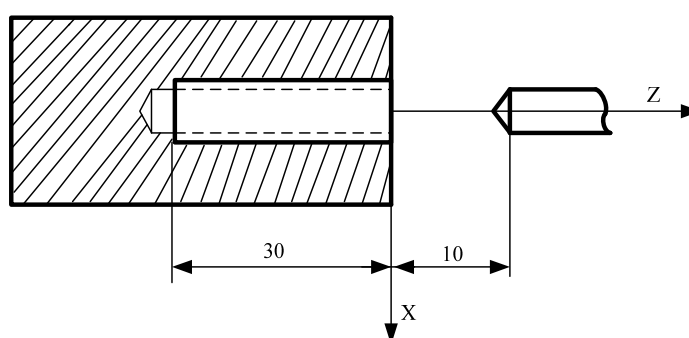

Fig. 3-2-16-1 G33 tapping cycle
**Command format:** G33 Z (W) \_\_ F (I) \_\_; G33X(U)\_\_F(I)\_\_;
**Function1:** Z moves from starting point (the position before G33 runs) to end point specified by Z (W) to execute the rigid tapping (its path is shown in Fig.3-2-16-1), the spindle rotates reversely and Z returns to the starting point of the cycle.
**Function2:** X moves from starting point (the position before G33 runs) to end point specified by X (U) to execute the rigid tapping, the spindle rotates reversely and X returns to the starting point of the cycle. (Its execution is the same that of Z but its direction is different from that of X)
**Explanation:** Z (W): absolute (incremental) coordinate of Z thread cutting's end point;